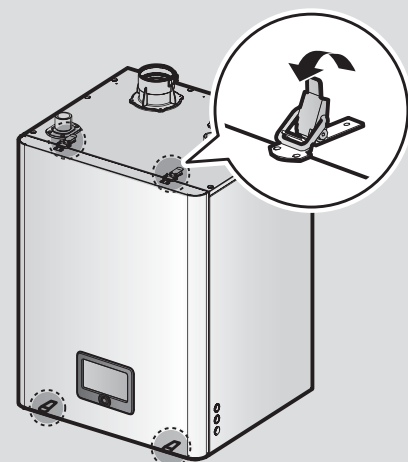

Figure 1. NFB Series Front cover
- Unfasten the 4 latches (2 at the top and 2 at the bottom) to remove the front cover and gain access to the internal components. See Figure 1 for illustration of the front cover clamps.